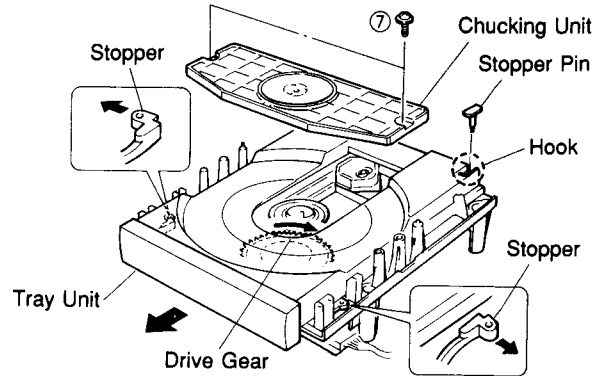

Fig. 3
- Remove 2 screws ( ⑦ ) and then remove the Chucking Unit in Fig. 3.
- Remove 1 hook and then remove the Stopper Pin in Fig. 3.
- Rotate the Drive Gear and then open the Tray Unit in Fig. 3.
- Detach the Stoppers on both sides and then pull out the Tray in Fig. 3.